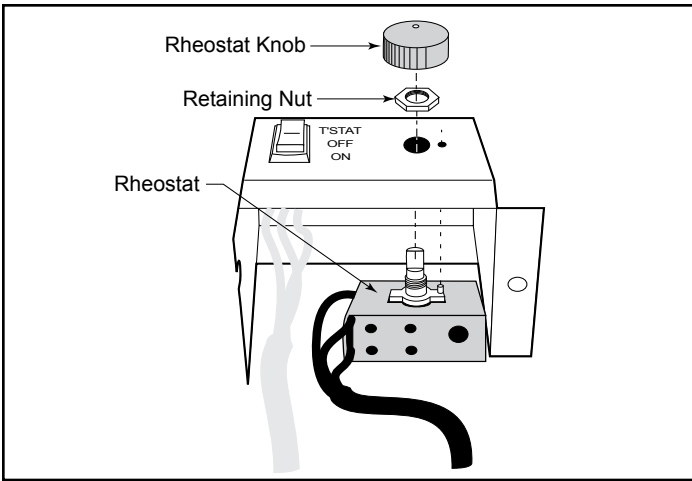

Figure 5 - Install rheostat into switch box.
- Attach the snapstat bracket to one of the side heat shields. (Figure 5) Choose the side from which the snapstat wire harness exits the fan motor housing. It may be easiest to first temporarily remove the shield from the side of the stove before attaching the bracket.
5. Install the Rheostat into the switch box. Feed the fan rheostat wire harness through the cut out in the rear shroud. Insert the rheostat control shaft through the switch box hole while aligning the locator pin with the smaller hole. Install the retaining nut and knob onto the control shaft. (Figure 5)